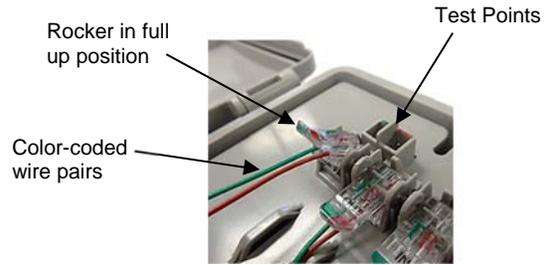

Figure 3
5. Lift the rocker to the full up position. Hold the wire pair to be terminated between thumb and index finger. Insert wires into rocker wire guides simultaneously until they bottom-out. While holding wires in position, terminate rocker by lowering to the full DOWN position (See Figure 3).
8. Test for continuity by attaching Test Clips (not Included) to appropriate paired test points (See Figure 3).